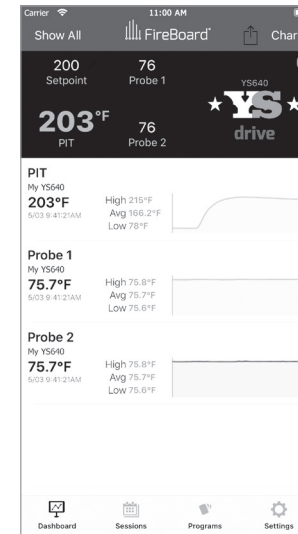

FIG 31
- You can choose between two visualizations of the running temperature data: a basic chart, and a detailed chart. You can toggle between the two by tapping on the word "Chart" or "Detail," respectively, in the title bar area of the app (FIG 31, 32).